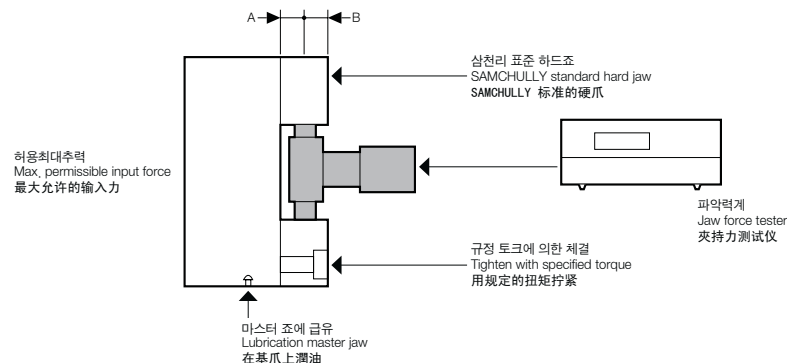

Fig.10
- (1) With SAMCHULLY standard soft top jaw used, the values of grip force are measured with jaw force tester at mid point of soft jaw height(from chuck surface to upper soft jaw face) as shown in Fig.10.
- (2) SAMCHULLY chuck grease is lubrication for obtaining the maximum efficiency of the chuck.
- (3) Mounting bolts of top jaw are tightened with specified torque. (Page17)
- (4) The maximum permissible input force for the wedge plunger is shown in the above table.
- (5) For hydraulic oil supply, the variable capacity type pump which has discharge capacity of 20 liters or more is used. Oil pressure is set with pump's own control devise or a reduction valve which is provided separately from the system.